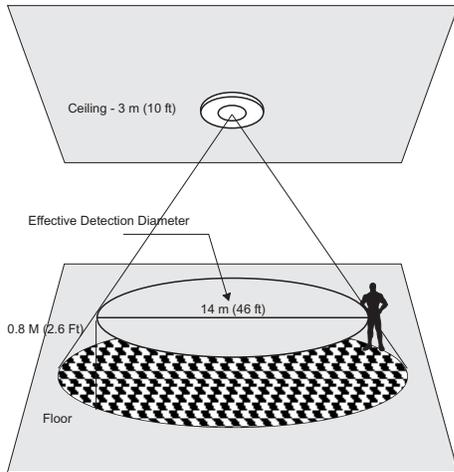
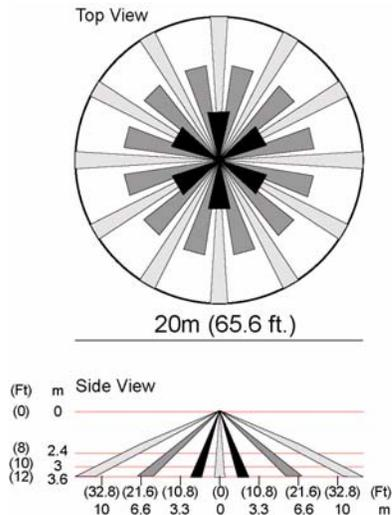

Figure 3 EE1265 detection diameter
Figure 4 EE1265 lens pattern
- The EE1265 can be mounted to a maximum height of approximately 12 feet (3.6 meters). As mounting height increases, distance between detection zones also increases toward the perimeter, and the effects of factors such as floor surface temperature and intruder direction and speed are intensified. This can contribute to reducing the speed of detection. Every installation should include a walk test of detection zones, including intrusion paths crossing the edges of the zones. See Figure 3 and Figure 4 for more information.